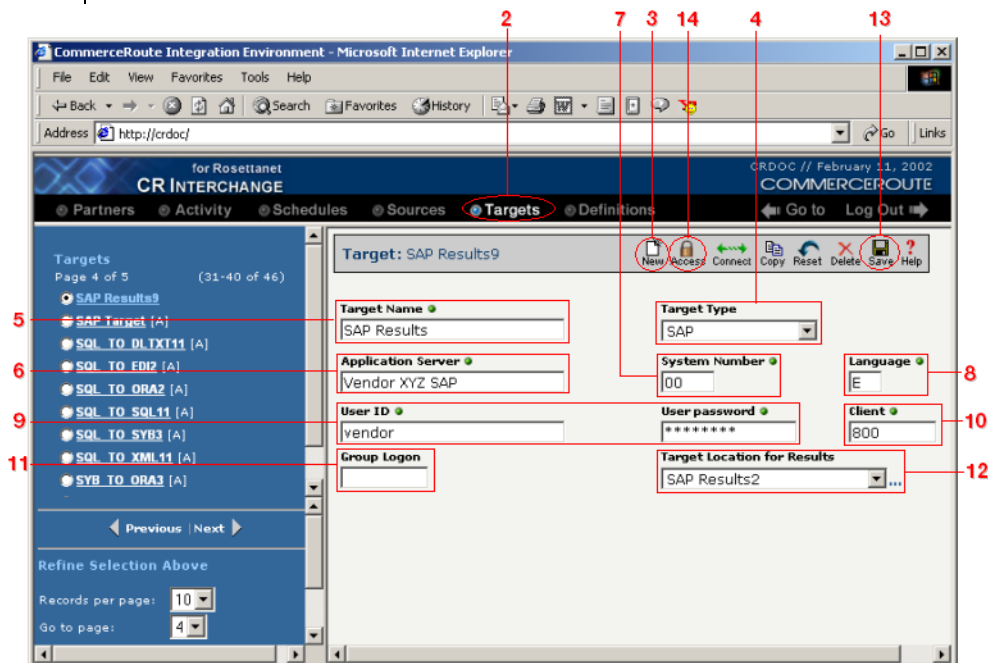

Figure 8-6. Follow the steps listed above to successfully define a new SAP target.
Follow these steps to create a new SAP target definition. Each step is marked in Figure 8-6 below.
- ❸ Click on the **New** button in the toolbar to create a new target definition.
- ❹ Select “SAP” from the **Target Type** drop-down menu.
- ❺ Enter a unique name for your source definition in the **Target Name** field.
- ❻ Enter a valid SAP server location in the **Application Server** field.
- ❼ Enter the proper system number (this should be a 2 digit number) into the **System Number** field.
- ❽ Identify which language you are using by entering a 1 or 2-character string into the **Language** field. (For example, “English” is typically identified by the value E or EN.)
- ❾ Enter an appropriate user ID and password for the SAP server in their respective fields.
- ❿ Enter the proper client number (this should be a 3-digit number) into the **Client Number** field.
- 13 Click the **Save** button in the toolbar. Compare your definition to that shown in Figure 8-6 below.